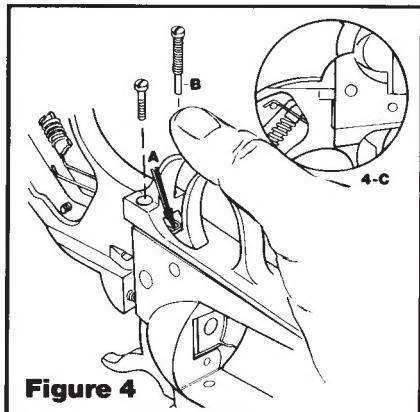

Figure 4
6. (Refer to Figure 4.) Unhook the ends of the trigger spring (XRN-37) from the grooved retaining pin on both sides of the grip frame.
10. (Refer to Figure 4.) Draw hammer to the rear slightly and place the grip frame loosely on the cylinder frame. Before pushing the grip frame forward to mate with the cylinder frame, be certain that:
11. See Figure 4, and note the end of the trigger spring (the arrow marked "A"). This end of the spring must be depressed so that it slides under the rear portion of the trigger when the grip frame is forward. With all the above springs and plungers aligned, fully mate the grip frame and cylinder frame and install the five grip frame screws. Note that the long screw (XRN-19L) should go in the grip frame hole on the gate side (Figure 4-B) of the revolver.
12. Hook the two ends of the trigger spring over the pin (KXRN-63) as shown in Figure 4-C.